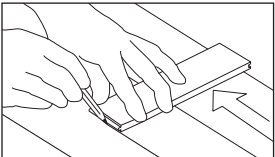

Figure 14
- If the wall is not straight, scribe the first board (Figure 14) as necessary to maintain alignment with the chalk line. Install a sacrificial board (with a straight edge) using the appropriate fasteners for the subfloor. If a board is used for the starter row, make certain the groove faces the wall.
- Align the first row with the wall using wedges to maintain a 1/2 in. (13 mm) expansion in place and to stabilize the product. If the wall is not straight, scribe the first board (Figure 14) as necessary to maintain alignment with the chalk line.